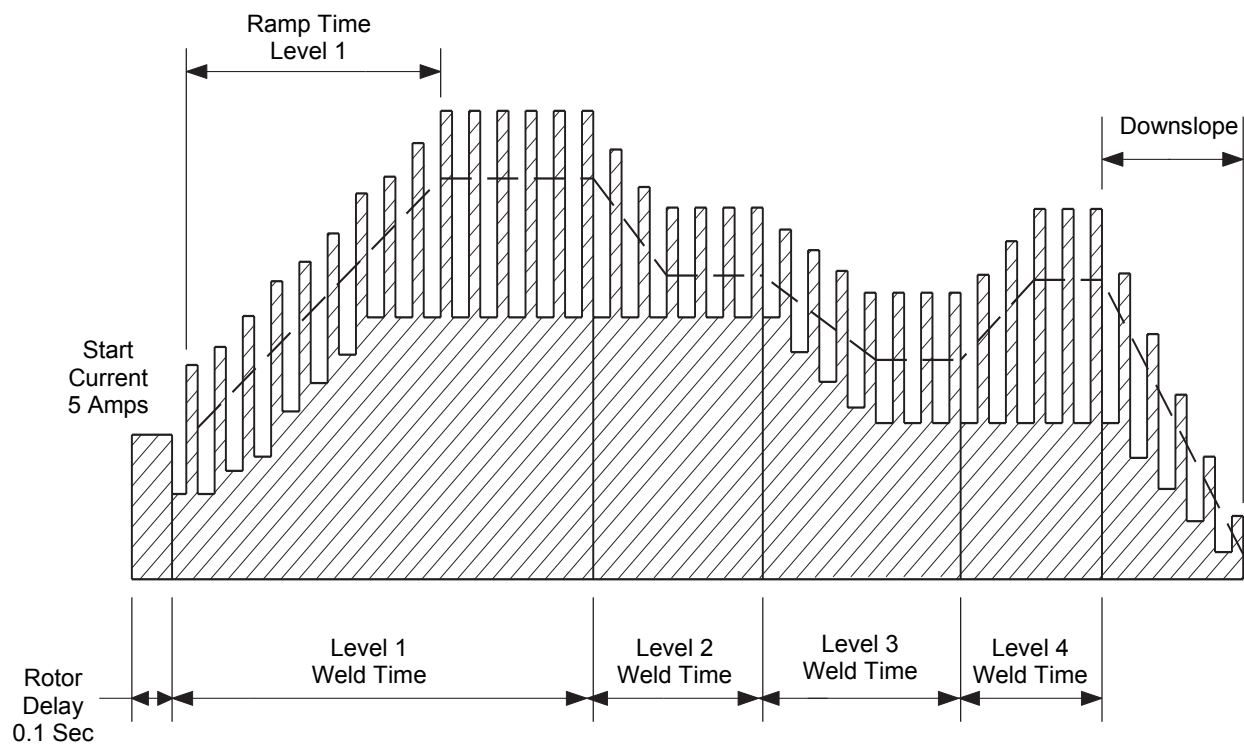

Figure 92 Ramp Time: Weld Does Not Penetrate Immediately
1. The weld does not penetrate immediately, see Figure 92. The following is accomplished in PROG/MODIFY/EDIT ITEM: